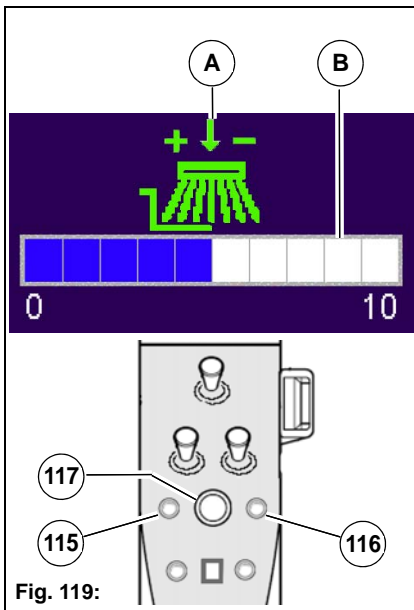

Fig. 119:
- Rotating the turn-push knob **Fig. 119-117** changes the value in the bar chart **Fig. 119-B**. The bar chart is divided into 10 increments.